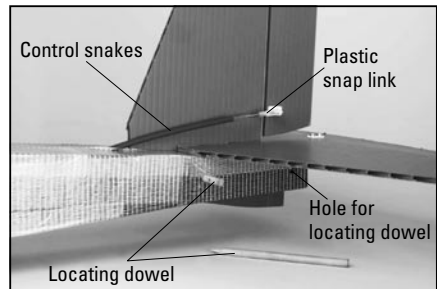

fig. 5
- ▼ 3. The tail plane/fin assembly fits into the pre-cut slot between the two fuselage halves as shown in fig. 5.
- ▼ 4. Pierce fin below tail plane to match holes in fuselage as shown in fig. 5. This is done to allow locating dowels to pass through the fin. Temporarily fit dowels.